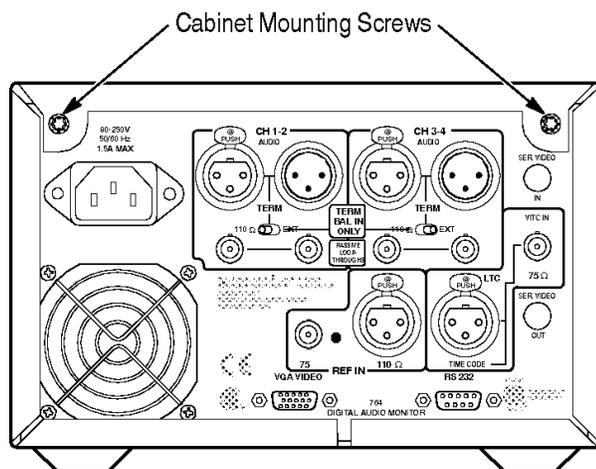

Figure 2: Rear view of the 764 in a Tektronix enclosure
**WARNING.** Do not carry an instrument in one of the optional enclosures without first installing the cabinet mounting screws as shown in Figure 2. Without the mounting screws, an instrument can slip out of its cabinet if tipped forward. Property damage or injury may result.